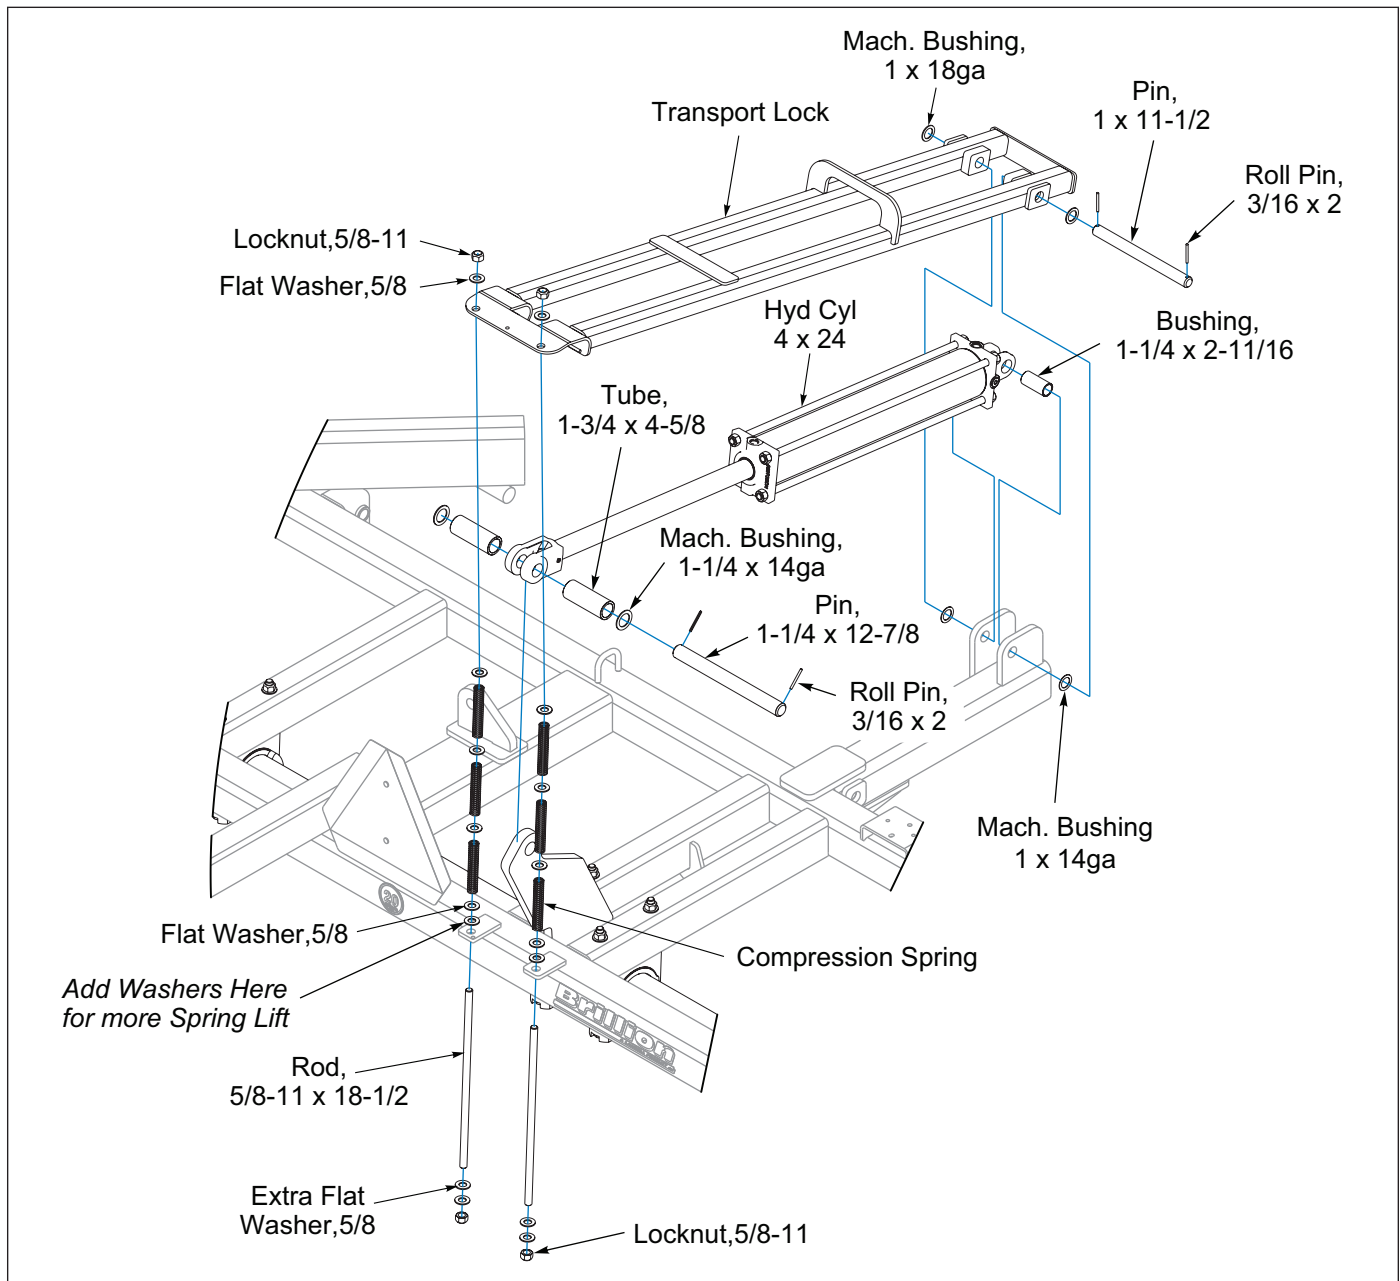

Figure 2-3: Transport Lock
1. Slide 1-1/4 x 2-11/16 Bushing into the base end of the 4 x 24 Hydraulic Cylinder. **See Figure 2-3.**
3. Place a 1 x 14ga Machinery Bushing on each side of the frame lug. Lower the Transport Lock. *The Transport Lock must be centered over the Hydraulic Cylinder.* Place a 1 x 18ga Machinery Bushing on the outside of Transport Lock and slide 1 x 11-1/2 Pin through all. Secure with 3/16 x 2 Roll Pin. **See Figure 2-3.**
5. Assemble the pair of Spring Rods as shown in **Figure 2-3**. There are three springs on each rod with a Flat Washer between each spring. More Flat Washers can be added to the top of the frame tab if more spring lift is needed to release the Transport Lock. Tighten the Locknuts on each rod to compress the spring assembly down enough to still allow the pin in the lift arm to travel freely under the Transport Lock.